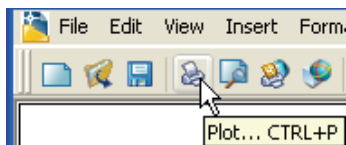

Fig. 16.27 The **Plot** tool icon in the **Standard** toolbar
1. With a drawing to be printed or plotted on screen *click* the **Plot** tool icon in the **Standard** toolbar (Fig. 16.27).